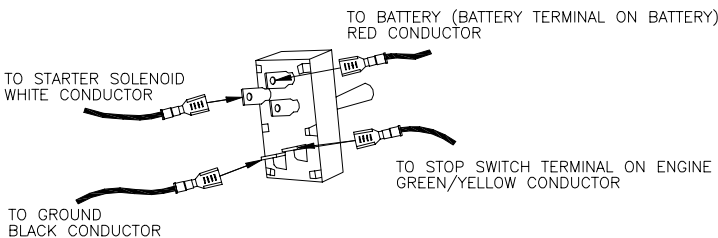

**Fig. 3**
3. Remove the two screws (103) and washers (141) holding the engine base door (7), and remove the door.
4. Loosen but do not remove the two nuts (116) holding the plate mount idler (item 26) in place. This will release the tension on the blade drive belt (29). **NOTE:** It may be necessary to apply some force to the pulley to slide it over from it's tight position and release the belt.
5. Working from the underside of the machine, loosen but do not remove the four screws (103) holding the two belt guides(Items 149 & 150) in place next to the crankshaft drive pulley (9) at the rear of the machine. This will loosen the belt guides(Items 149 & 150) and allow them to move to the side. **NOTE:** This step requires the use of a universal joint or universal extension bar to reach the screws(103) holding the belt guide(149). If universal joint is not available you may remove the "neutral stop bolt"(Item 115) and associated nuts (116 & 117) to allow the idler arm to swing back and allow access to the screws(103) holding the belt guide(149).
6. With the guides loose slip the blade drive belt(29) out of the groove on the drive pulley and down past the pulley. Note: It is necessary to remove the transaxle drive belt(10) from its groove to allow removal of the blade drive belt.
9. Reach through from rear of machine and pull new belt through and install it in the groove on the clutch/brake drive pulley. NOTE: Make sure the blade belt is properly seated in the clutch/brake drive pulley(Item 23) and not resting in the gap between the clutch/brake pulley(23) and the transaxle drive pulley(46)
10. Tighten four screws to secure belt guides (item 149 & 150) in place. NOTE: Be sure belt is correctly routed when replacing. (See Fig. 3)
11. Set tension on belt by reaching in through top of engine base with a long screwdriver or other pry bar and pushing the idler pulley over against the belt to increase tension. While holding the belt under tension tighten the two screws (107) that hold the idler arm in place. Note: Proper belt tension can be verified by checking the tight side (non-idler side)belt deflection. The belt should deflect 3/16"-1/4" with force applied perpendicular to the belt after tensioning.
12. Replace engine base door (item 7) and tighten screws to hold it in place